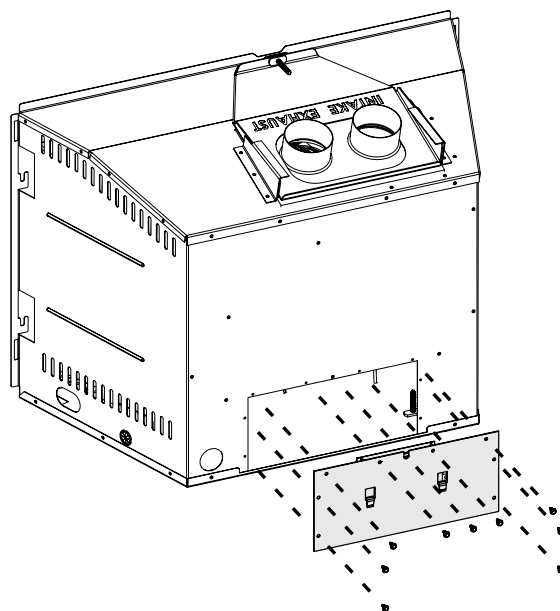

Fig. 7-2
4. Remove the blower access panel by removing 9 screws (**Fig. 7-2**).